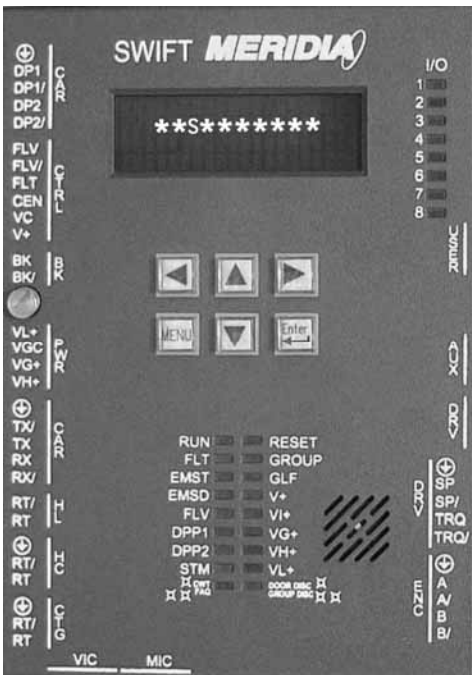

Figure 5-13
2. Verify the CCU front panel V+ LED stays lit green and display is active. [See Figure 5-13.]